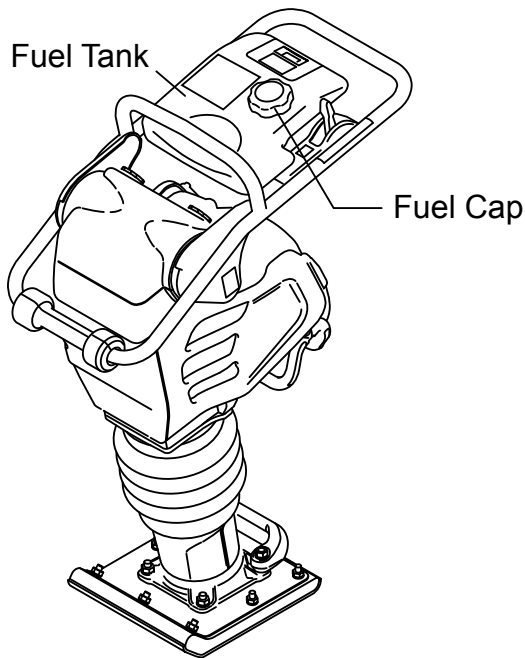

Figure 1. Remove Fuel Cap
1. Remove the fuel cap from the fuel tank (Figure 1).